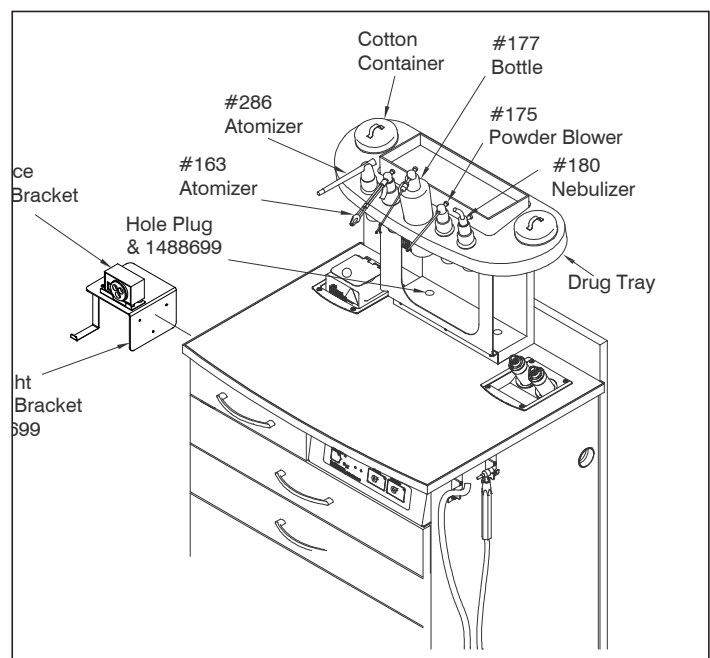

FIGURE 4 (310 Shown)
3.4.1. Remove all glassware items from their original cartons. Assemble all glassware and place in their appropriate locations in the Drug Tray. See Figure 4.
3.4.4. Add Otoscope heads to rechargeable Battery Handles or corded Charger Handles as required. Place rechargeable Battery Handles into Wells located in the cabinet top. Hang corded Handles in the appropriate location in the Charger. (See Figure 4)
3.5.1. Locate the Tower and place it on top of the Curve Top. If the Curved Top is laminate secure the Tower to the top using (2) 1/4-20 X 2.00 Phillips Flat Head screws. (After placing screws place Nylon Hole Plug into holes. See Figure 4.)
using (2) 1/4-20 X 2.00 Phillips Flat Head screws and (2) 1/4-20 nuts. (After placing screws place Nylon Hole Plug into holes. See Figure 4.)
3.7.3. Take the LED Light Source Power Cord and run it through the hole and plug it into the Light Source. See Figure 4